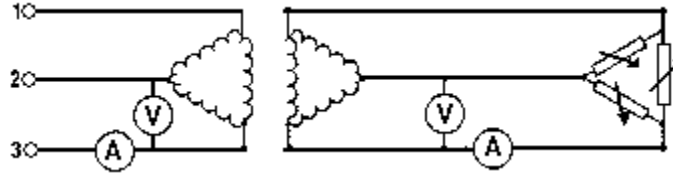

Figure 3-2
5. Set up the equipment as shown in Figure 3-2 “Delta-to-Delta”.